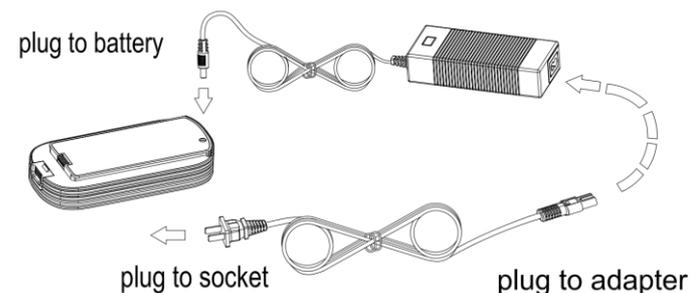

Figure 7 - Charge the battery separately
- ① As shown in Figure 7, connect the AC adapter to charge the battery;
- ② Remove the battery according to the method shown in Figure 3, and then connect it to an AC adapter according to Figure 7 to charge.